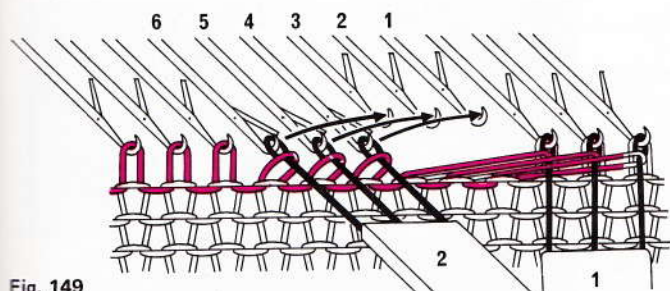

Fig. 149
- With the second transfer tool pick up stitches from needles 4–5–6 and transfer them onto needles 1–2–3. Remove this tool (fig. 149).